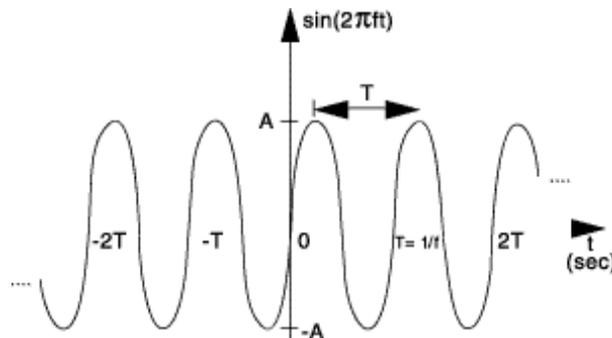
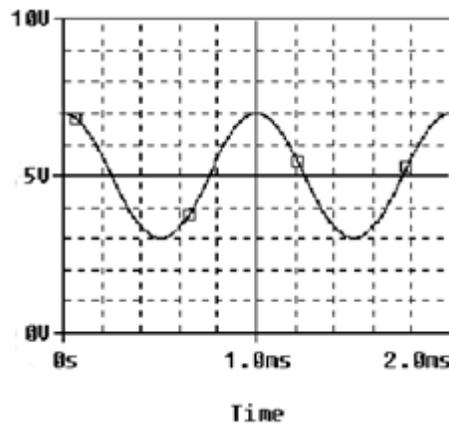

Figure A-3: Sine wave with amplitude A , frequency f , and period T .
Figure A-4.
The Sine Wave Equation: All of us should have studied the sine and cosine trigonometric functions in math and physics classes. A sine wave is described by an equation of the form $v(t) = A\sin(2\pi ft) = A\sin(\omega t)$, where the variable t represents time. We use the term "wave" because the shape is similar to a water wave that you might see on an ocean or a lake. As shown in Figure A-3, a sine wave is characterized by two parameters, called amplitude (A) and frequency (f). The amplitude A determines the maximum value that the sine wave achieves along the vertical axis. The sine wave takes on values between $+A$ and $-A$ at various times.
Adding a DC Offset: If we add a DC offset voltage to the sine wave signal, as shown in Figure A-3, it moves the wave up or down such that it is centered around the DC offset. The equation becomes $v(t) = A\sin(2\pi ft) + V_{DC}$. The AC and DC parts of the signal can sometimes be treated as two mutually exclusive entities. Figure A-4 shows a sinusoidal (cosine) signal with $A = 2\text{ V}$, $T = 1.0\text{ ms}$, and $V_{DC} = 5\text{ V}$.